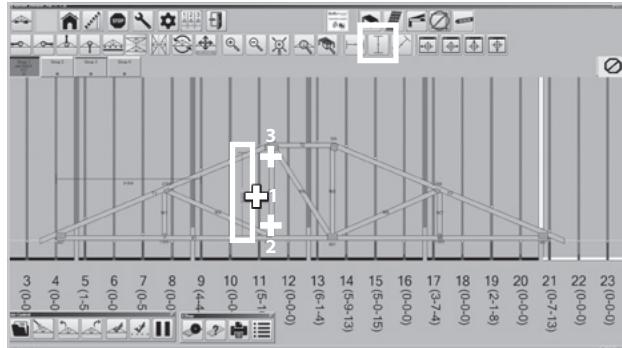

Figure 47
3.8.2. Vertical dimension (Figure 47):